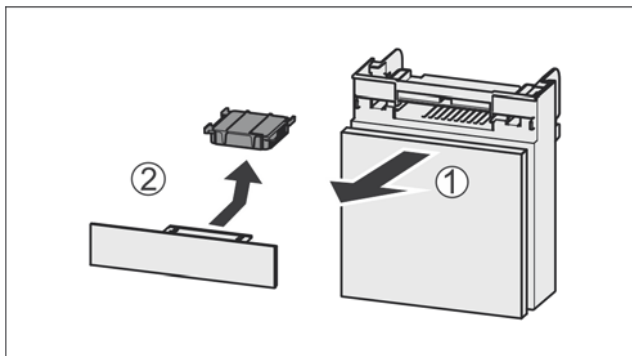

Fig. 35
- Pull out the compartment Fig. 35 (1).
- Remove the carbon filter Fig. 35 (2).